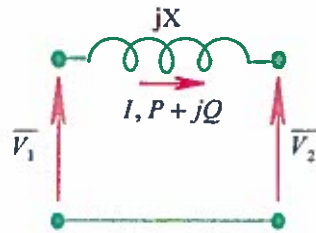

Figure 2.1
- a) Considering a simplified equivalent circuit of a high voltage transmission line presented in Figure 2.1,